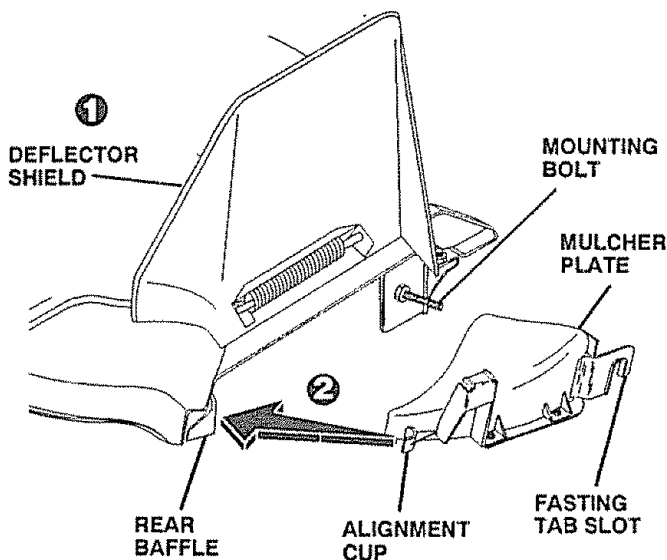

FIG. 6
- Slide seat until a comfortable position is reached which allows you to press clutch/brake pedal all the way down (See Fig. 6).
INSTALL MULCHER PLATE (See Figs. 6 & 7)